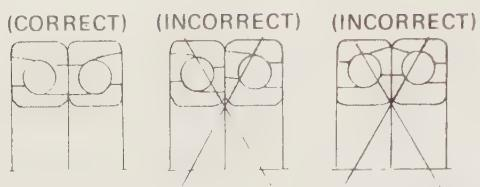

Fig. 11.9. Assemble the two halves of the bearing correctly (FF - 1)
- 11 When refitting the bearing, ensure that the two parts are assembled correctly, refer to Fig. 11.9, and pack it with wheel bearing grease.